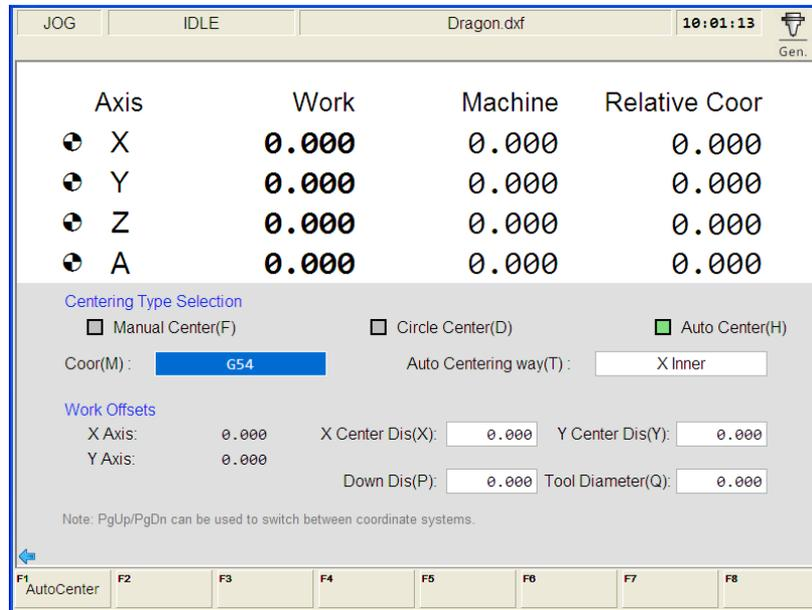

Fig. 3-48 Auto centering sub-screen
In manual mode, press  ==> F5 “Center” to access the centering interface. Press the letter key “H” to select “Auto Center (H)”, as shown in Fig. 3-48.